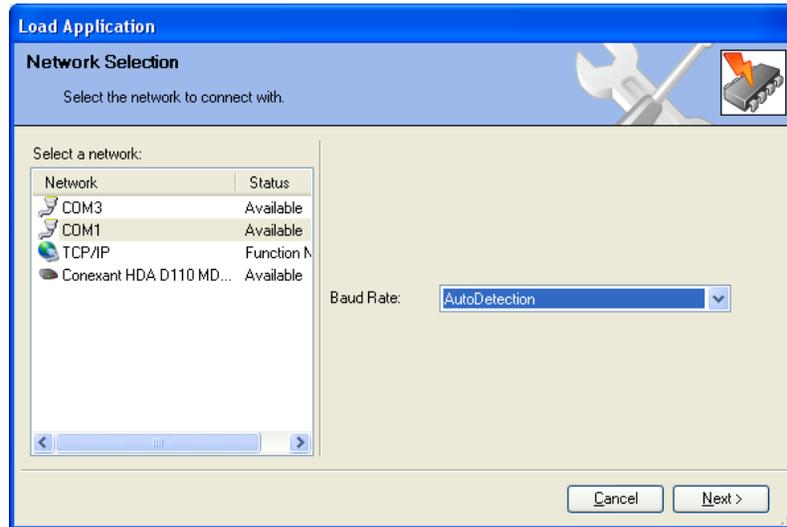

Figure 5-5. Communication Port
9. Tool will prompt to connect to a COM Port Figure 5-5. Connect using the communication port where the driver is connected to. Typical COM1. The baud rate must be "Baud_38400". Click the Next button.